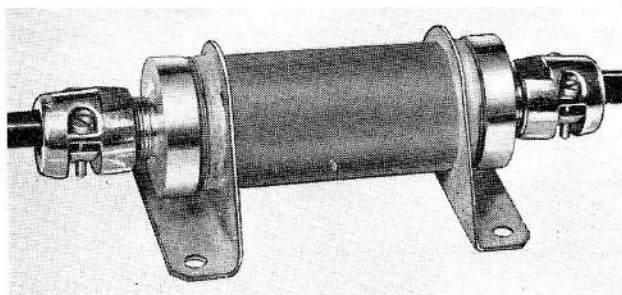

Fig. 1. Over-voltage unit
1. The over-voltage unit (*fig. 1*) is a component in the Graviner explosion protection system. It is in effect an electronic relay which trips in the event of the power pack output voltage exceeding the desired limit.